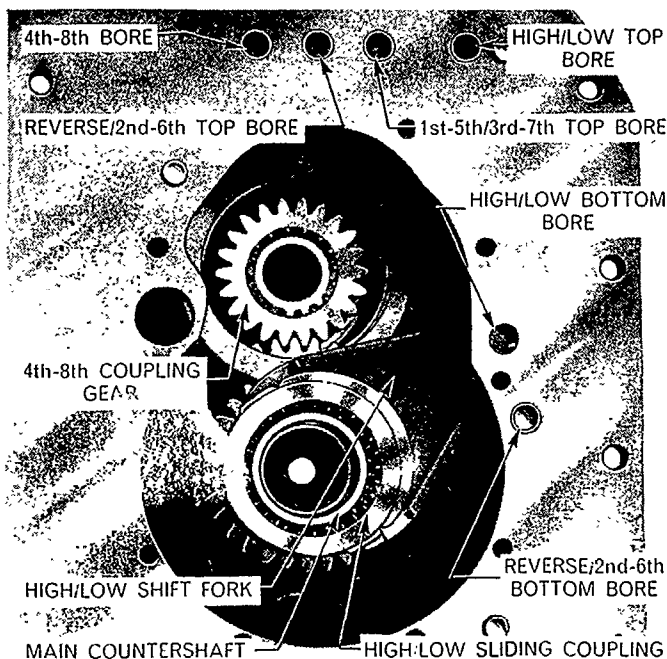

Figure 74
1. Make certain that the High/Low sliding coupling is engaging the dog-teeth on the rear of the main countershaft and that the High/Low shift fork is located in the sliding coupling groove, Figure 74.
3. Remove the connector and arm and slide the rail out to the front, pushing the front sealing plug out with the end of the rail. If necessary remove the rear sealing plug from the bore, Figure 74.
2. Use a suitable drift to drive the shaft out forwards, removing the 4th-8th coupling gear, Figure 74.